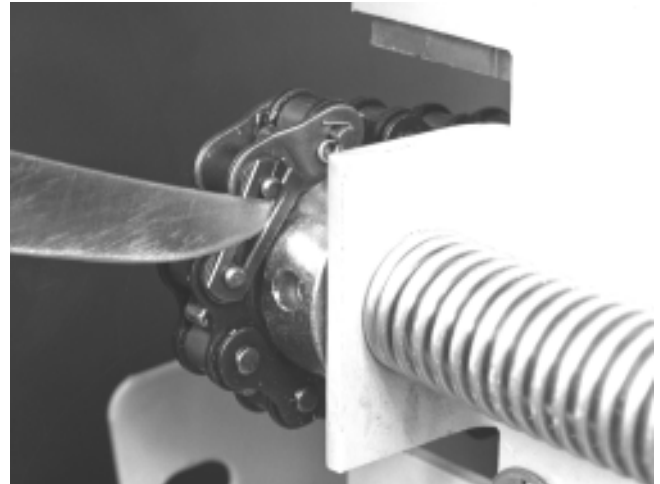

Figure 18. Use a screwdriver blade to pry off the clip holding the removable chain link in place.
11. Rotate the chain until the removable link, shown in Figure 18, is accessible on the chain drive sprocket. Slide a screwdriver blade into the retaining clip and pry one side up, as shown, then remove the clip by sliding the clip off the pins. Remove the two parts of the link, then remove the chain from the drive sprocket.
29. Put the chain back on its drive gear and hold it in place with the two parts of the removable link. With a screwdriver blade, pry the retaining clip apart and slide it over the two exposed pins, as shown in Figure 18 (the reverse of removal).